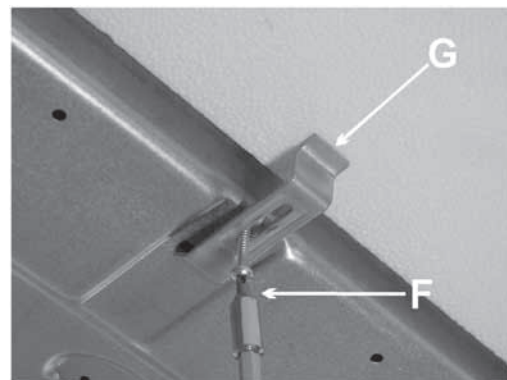

FIG. 2
- Position the hob in the hole in the unit and fasten it in place using the appropriate screws "F" of the fastening hooks "G" (see fig. 2).